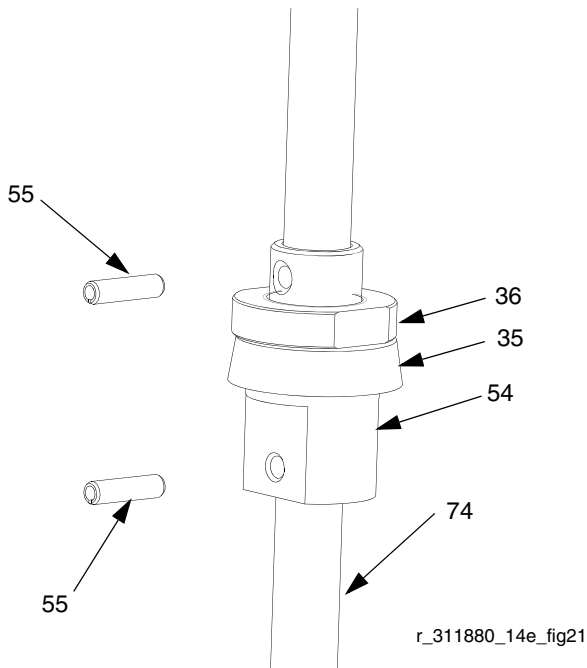

FIG. 20
9. Remove spring pins (55). See FIG. 20.